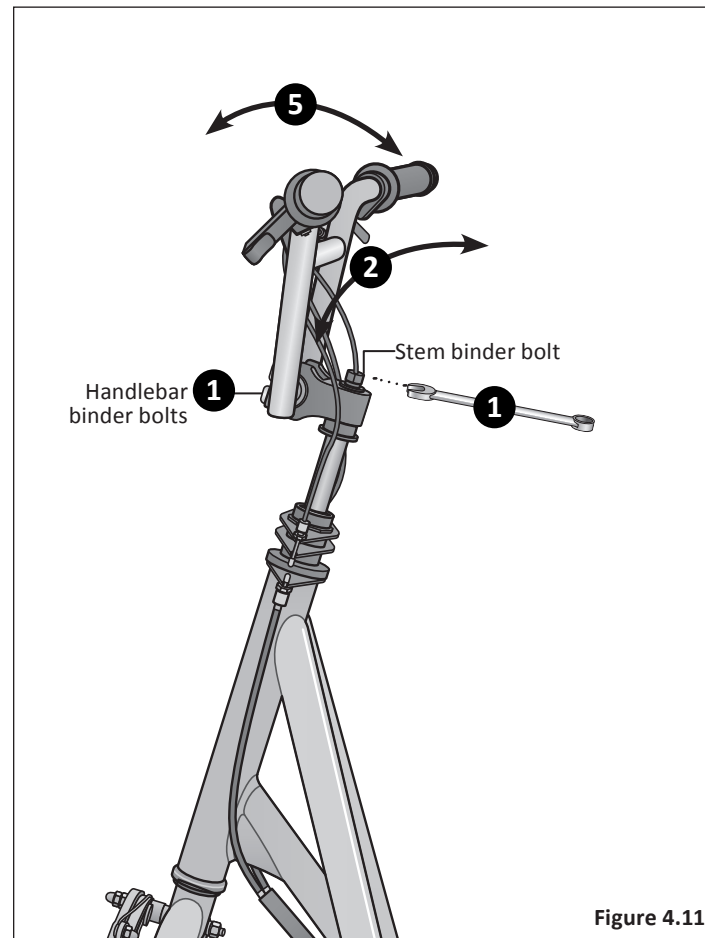

Figure 4.11
- 1 Using a 14 mm open-end wrench loosen the stem binder bolt. **Figure 4.11**